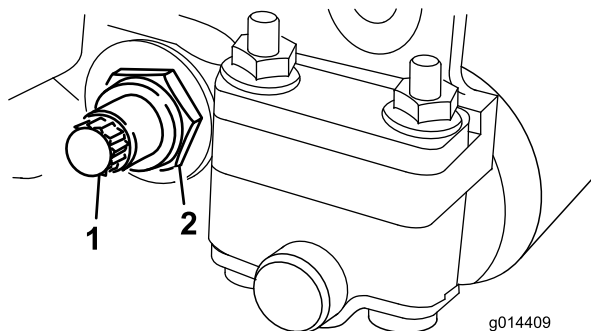
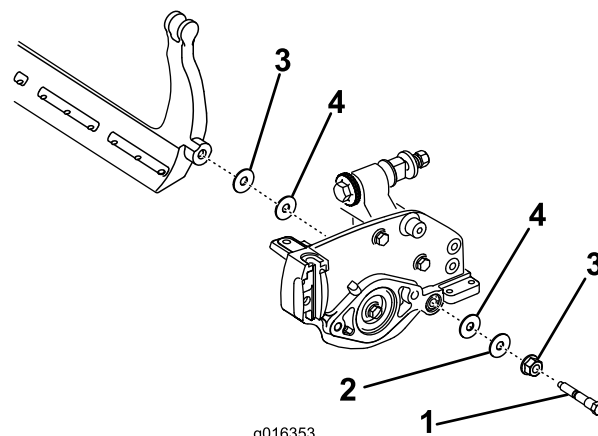

Figure 19
Figure 20
3. On each side of the machine, loosen the lock nut securing the bedbar bolt (Figure 19).
4. Remove each bedbar bolt allowing the bedbar to be pulled downward and removed from the machine bolt (Figure 19). Account for the two nylon and one stamped steel washers on each end of the bedbar (Figure 20).
2. Secure the bedbar to each side plate with the bedbar bolts (nuts on bolts) and 6 washers. A nylon washer is to be positioned on each side of the side plate boss. Place a steel washer outside each of the nylon washers (Figure 20). Torque the bedbar bolts to 240-320 in-lb (27-36 N-m). Tighten the locknuts until the outside steel washer stops rotating and the end play is removed but do not overtighten or deflect the side plates. The washers on the inside may have a gap.